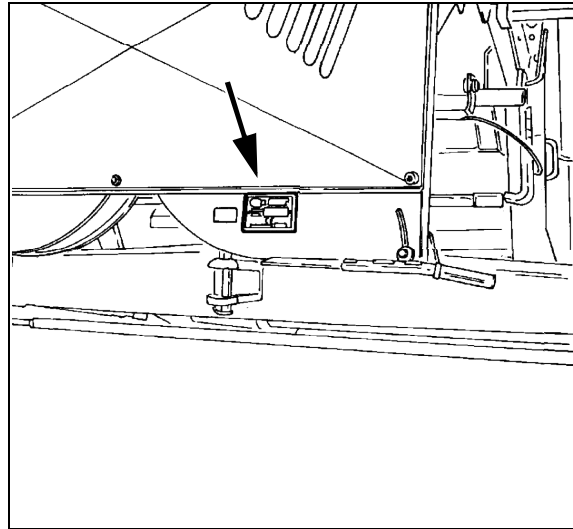

Fig. 10
**Chaff spreader identification (if fitted) - Fig. 10**